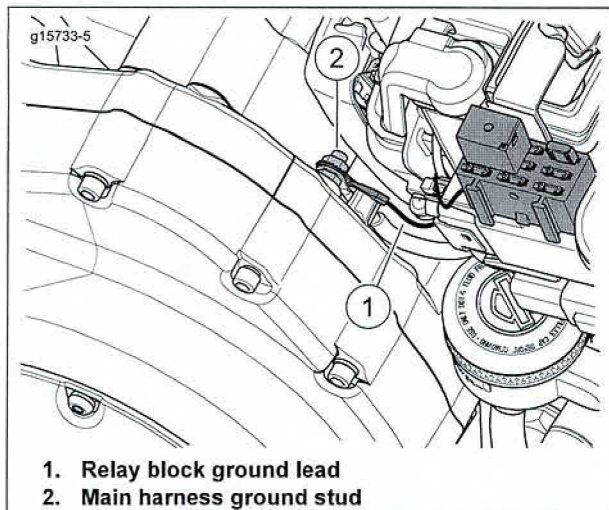

Figure 4. Main Harness Ground Stud
4. See Figure 4. Connect the negative wire lead from the relay block to main harness ground.
- a. Route the negative wire lead (black) (1) from the relay block behind the fuse block and down between the frame tubes to the main harness ground (2).